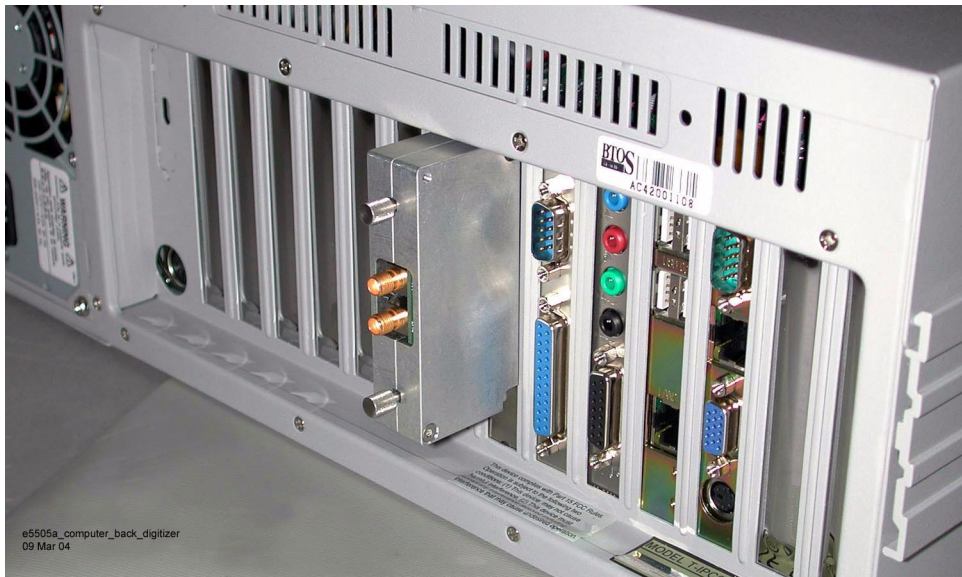

Figure 317 Connect adapter to PC digitizer card
- 3 Connect the digitizer adapter to the back of the PC digitizer card, as shown in Figure 317.